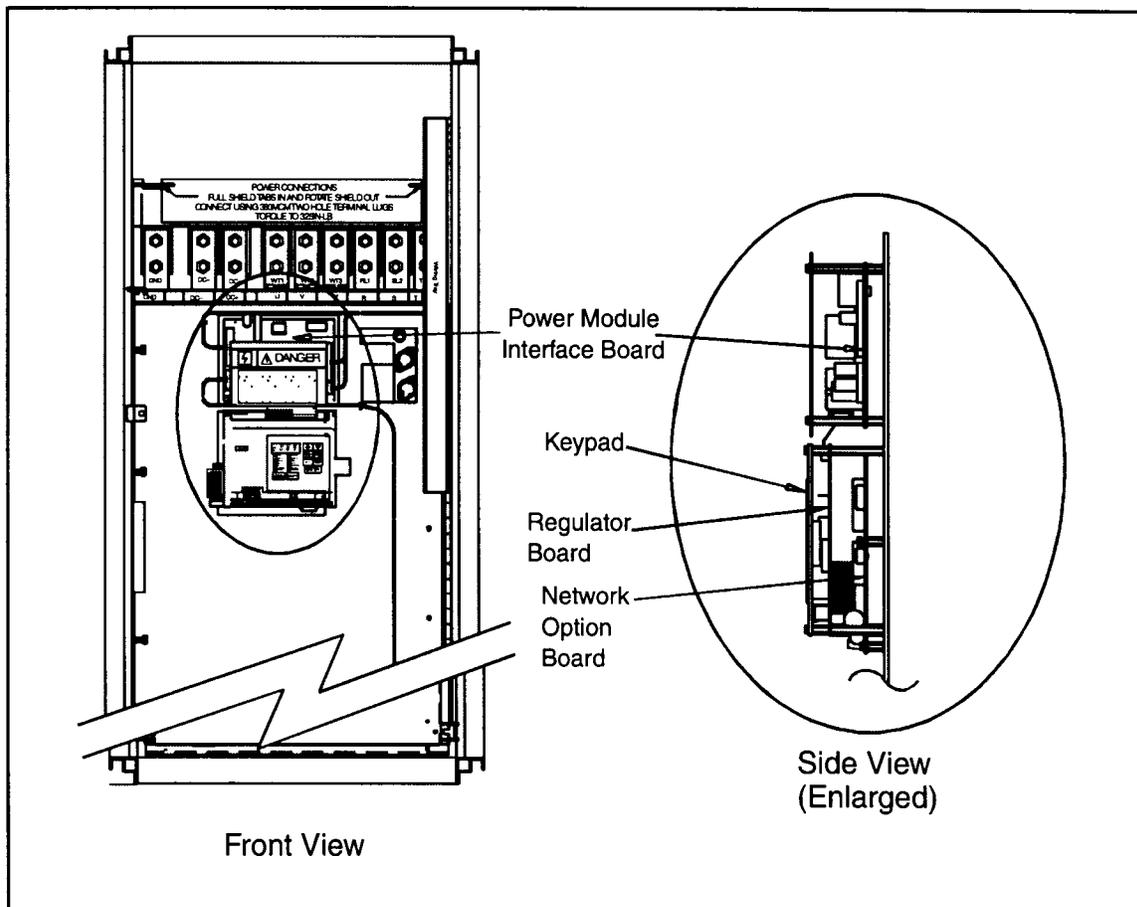

Figure 2.16 – 200 to 400 HP
- ii. Use a voltmeter to check the DC bus potential at the Voltmeter Test Points on the Power Module Interface board. See figure 2.16.
Refer to figure 2.16 for component locations.